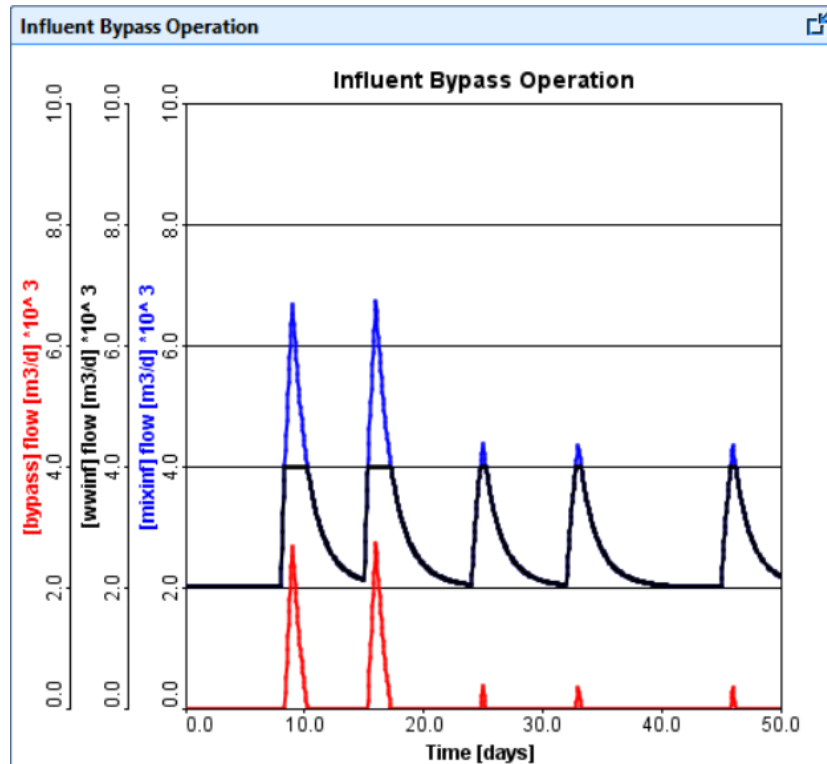

Figure 15-8 - Output of the "tutorial-15-Bypass" Python Script
20. **Run the Script.** A sample output can be seen in **Figure 15-8**. Note: your output will appear different due to the randomness in this script.